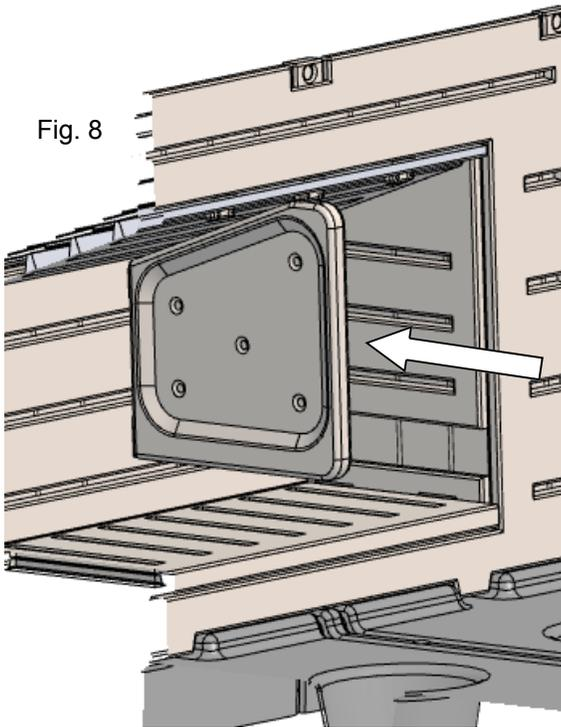

Fig. 8
Step 8: Assemble the Nest Divider to the Nest Box by aligning the two tabs on the Nets Divider to the slots in the Nest Box and inserting the tabs until they snap into place (Fig. 8).